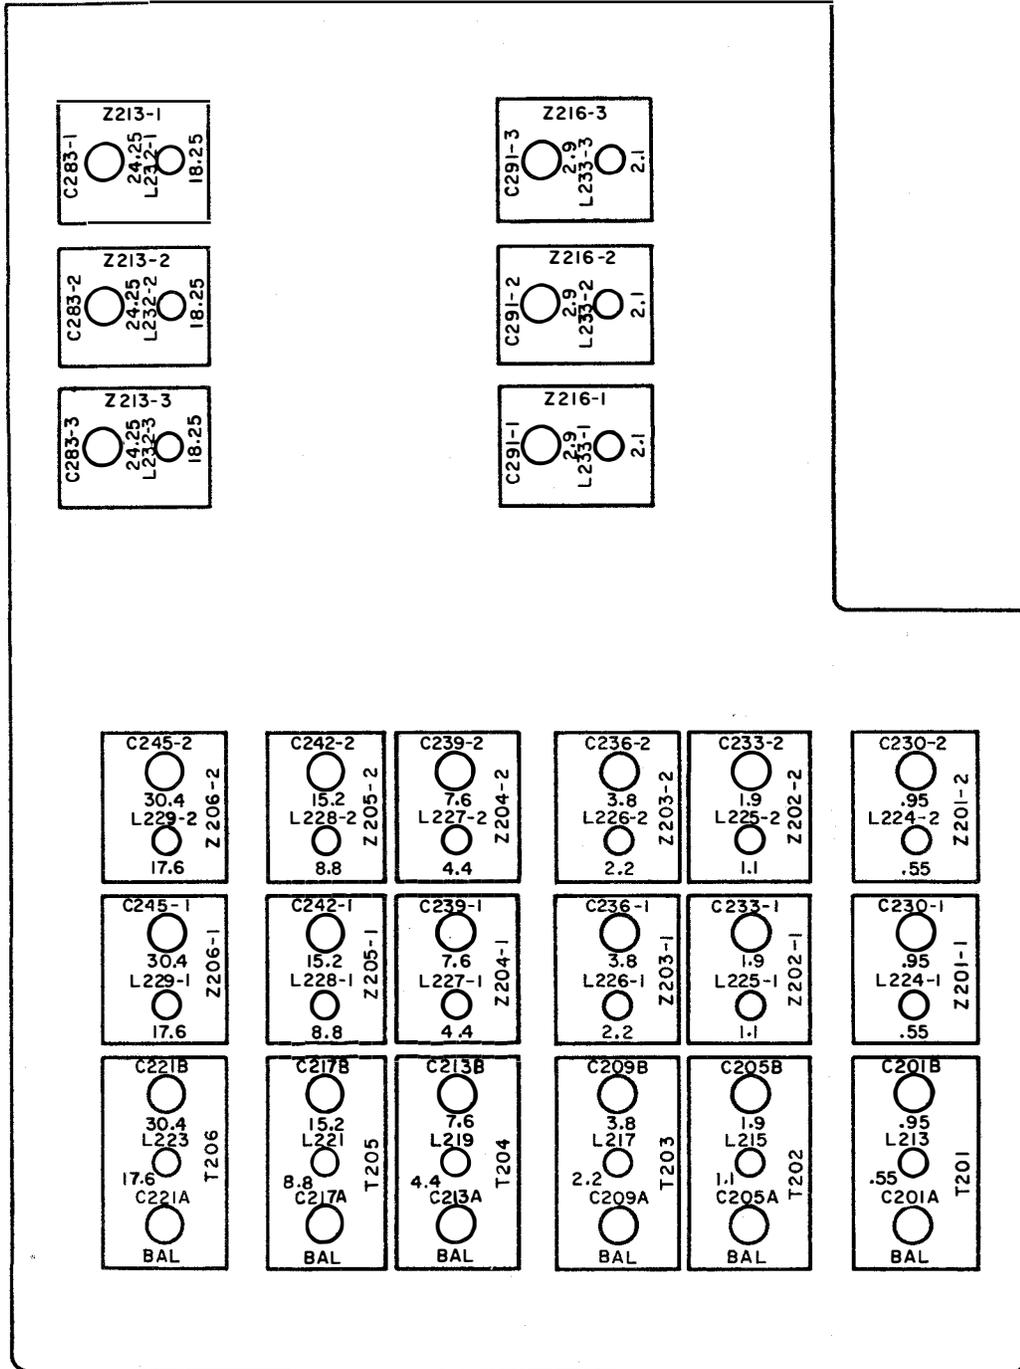

Figure 6-6. RF and Variable IF Alignment Points
6.2.10.2 Alignment. (See figure 6-6.)
6.2.11.2 Alignment. (See figure 6-6.)
6.2.12.2 Procedure. (See figure 6-6.) Perform each step in the RF alignment chart (table 6-2) by the two steps given below.